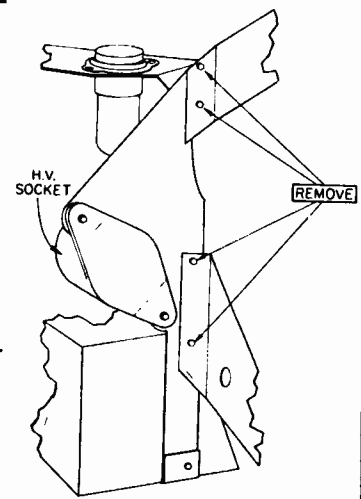

Figure 1 - Bracket Removal.
To provide easy access to the PC board, the CRT assembly can be partially disassembled (see Figures 1 and 2).
1. Remove the 4 screws shown in Figure 1.